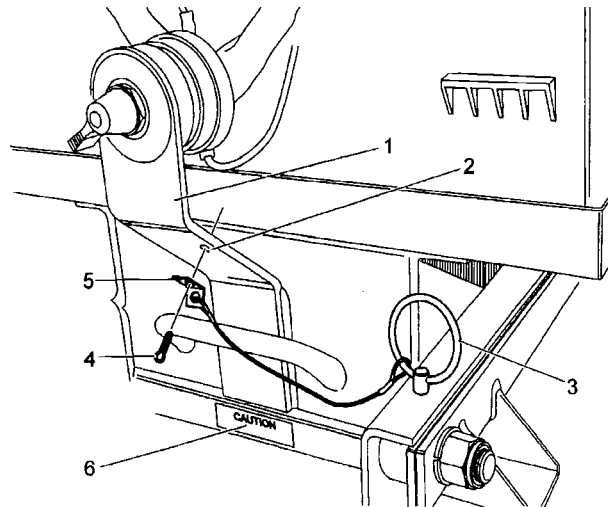

Figure 1-2 Installing the Quick Release Pin Assembly
4. Drill a 13/64" hole (2) on the right side of the lower half of the isolator switch bracket (1). Refer to **Figure 1-2**.
5. Work the quick release pin (3) through the 3/8" hole on the battery tray arm. Refer to **Figure 1-2**.
6. Place the quick release pin tab (5), over the 13/64" hole (2) and secure with a cotter pin (4). Refer to **Figure 1-2**.